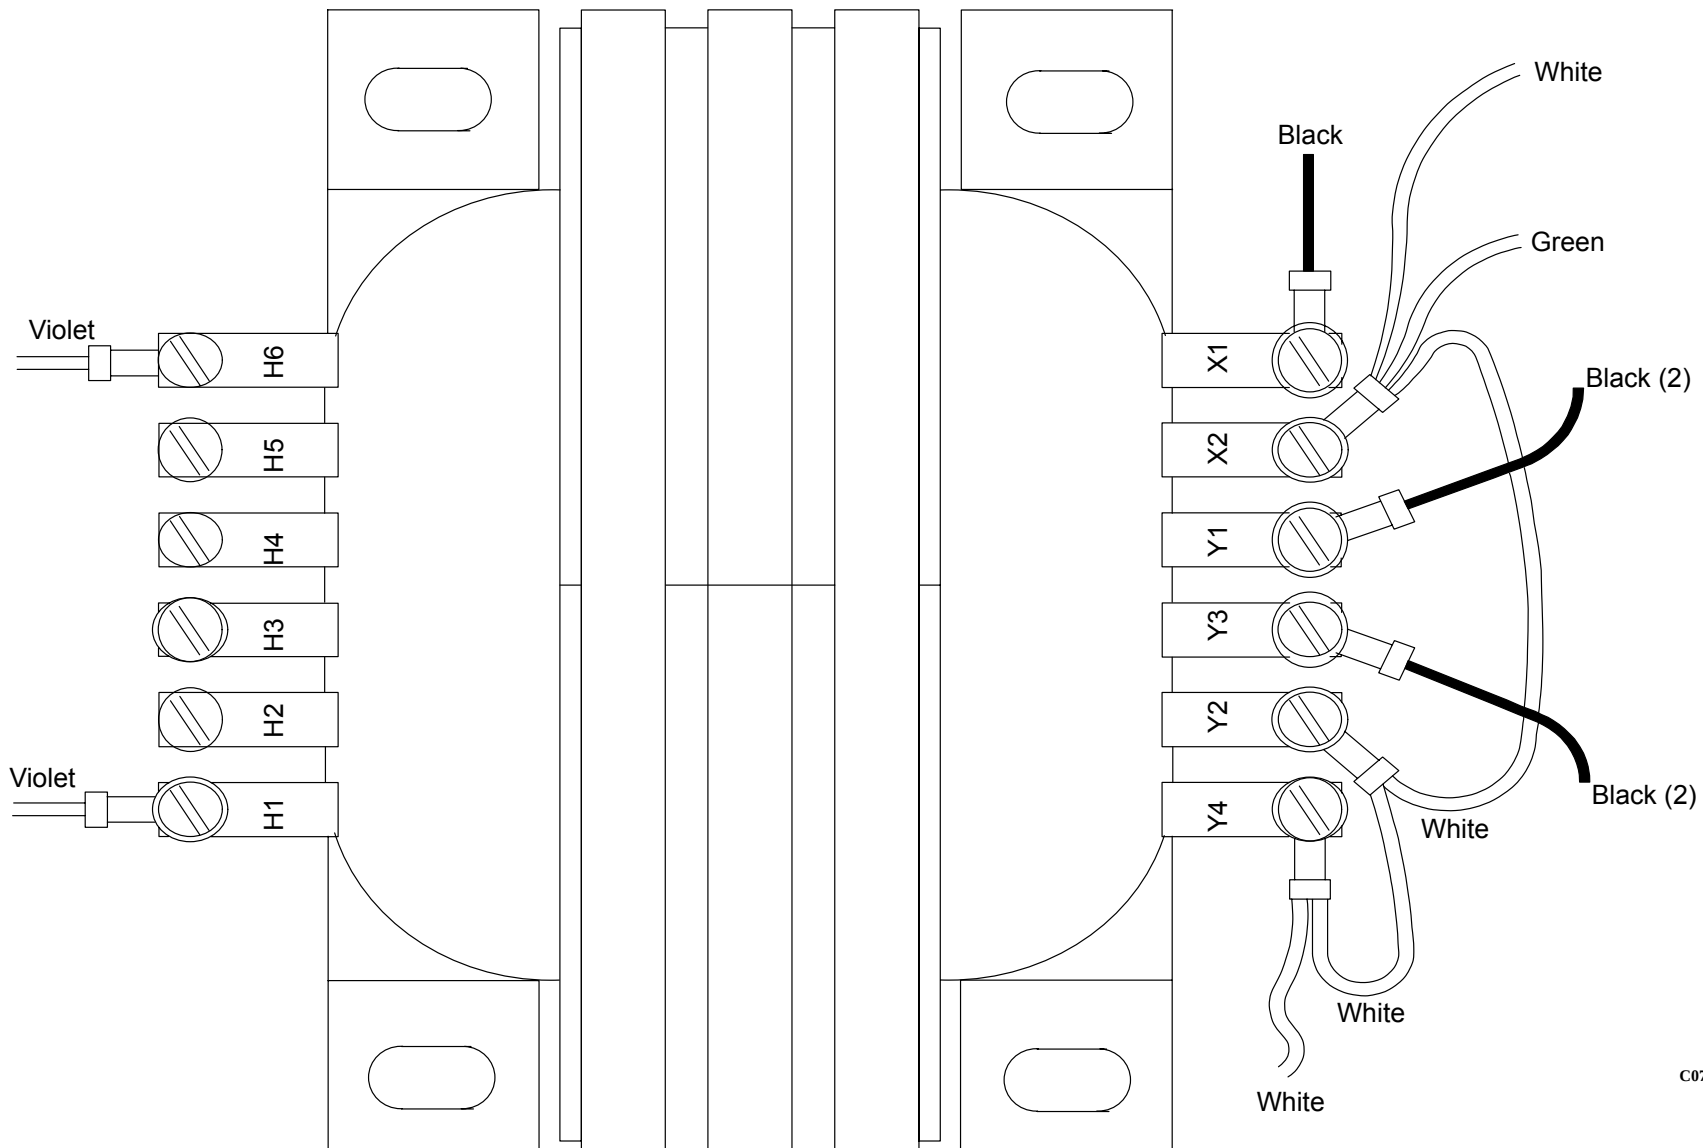

FIGURE 320 1.1 KVA Transformer Connections
4. Tag and remove the eight transformer connections. See Figure 320.